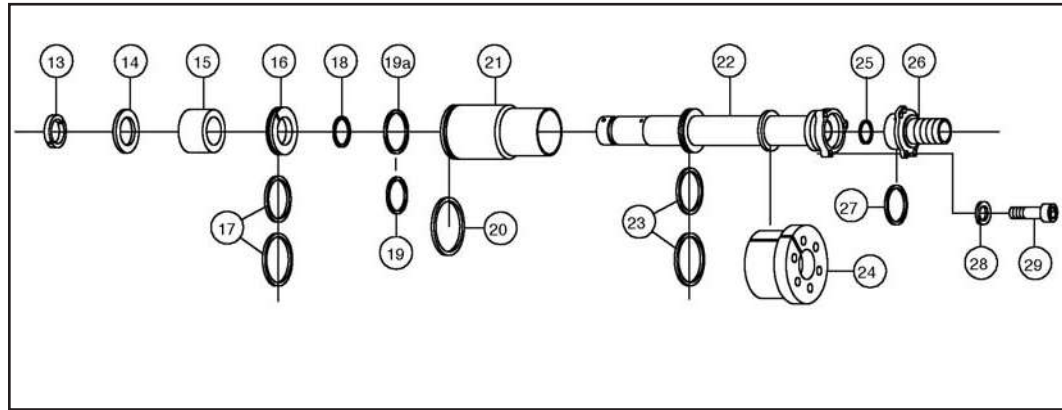

FIG. 63: CONTROL STUD COMPONENTS
1. Place the control sleeve seal into the groove of the control sleeve (see Fig. 63 and refer to appendix 2 for descriptions of parts).